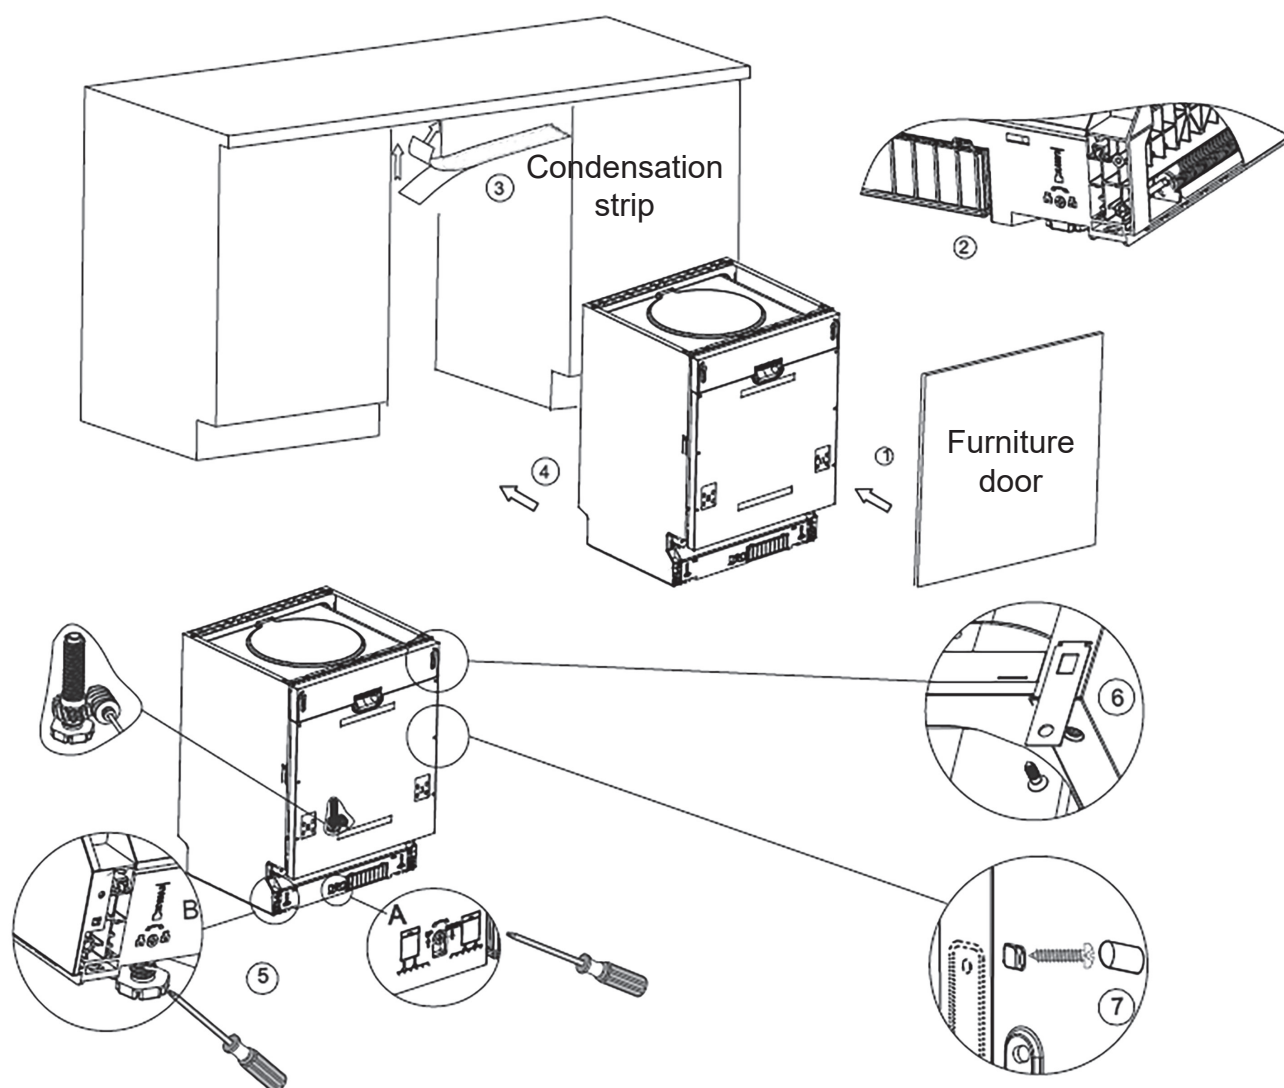

Figure 6
4. Connect the drain hose. Refer to diagram.(Figure 6)